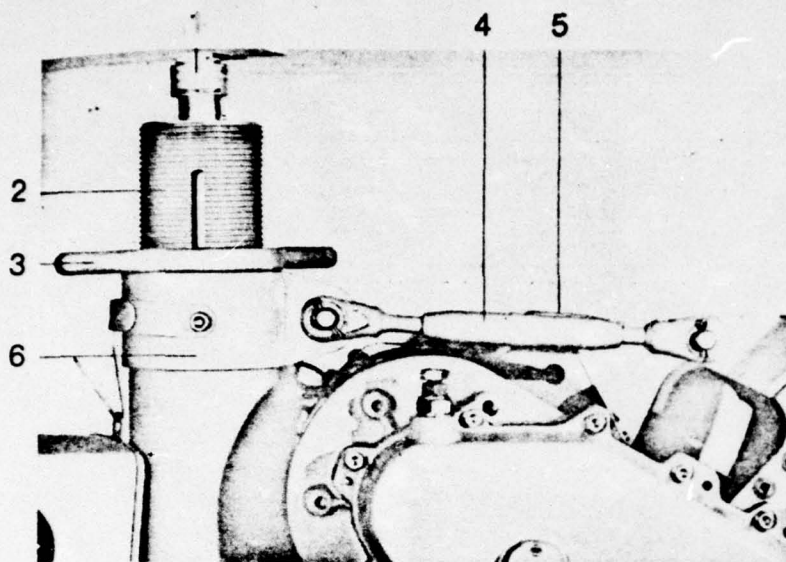
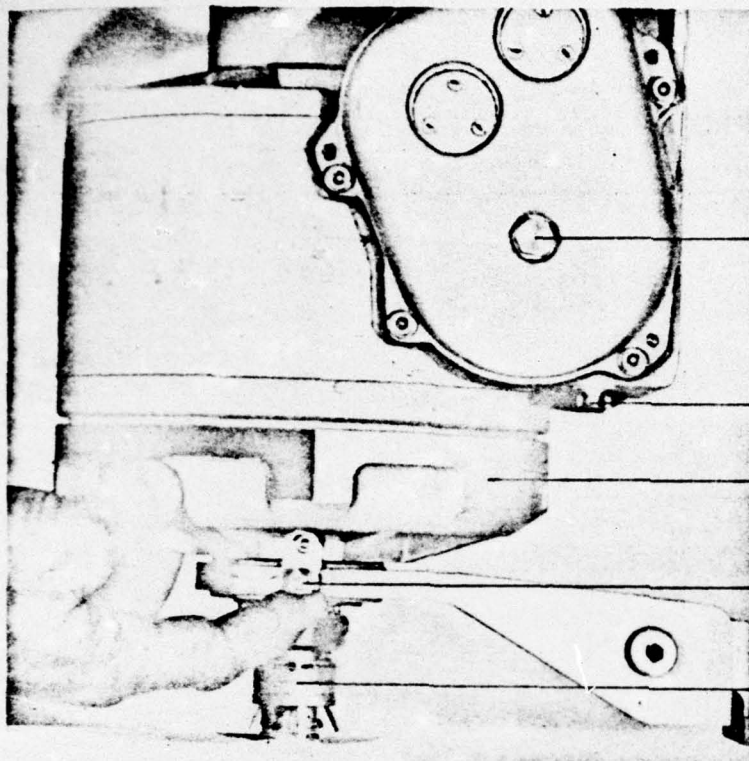

Figure 2.2
Figure 2.6
1. Opening of both quick-release fasteners on the hoisting mast (1, Figure 2.2, and 3, Figure 2.6).
2. Insert screw thread completely (2, Figure 2.2).
6. Elevate the thread insert at the upper end of the hoist mast, press against the upper mounting bolts on the cabin roof, close quick-release fastener and release hoist (Figure 2.2).
7. Screw down ring nut (3, Figure 2.2) lightly with the two hand-grips against the bullring (6, Figure 2.2).
9. Check proper seat of hoist between the fixed points by shaking the mast and screw on the ring nut from one-half to a full turn so that the mast is held solid with stress (Figure 2.2).
By actuating slewing switch on control unit to ON (for "slewing in"), so that the unit slews in installation positions 1, Figure 2.1 and 4, Figure 2.1, turning clockwise and in installation positions 2, Figure 2.1 and 3, Figure 2.1, turning counterclockwise, the direction of turn of drive can be switched by twisting the adjusting bell (1, Figure 2.6).
One hand is used to extract the flexible captive bolt (2, Figure 2.6) and the other hand is used to turn the adjusting bell to the stop so that its red marking shows the proper slewing range for the selected installation position.